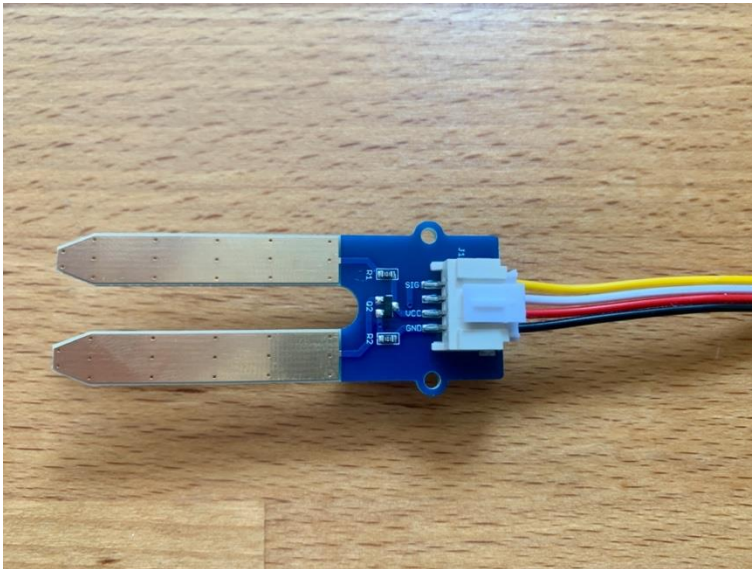

Figure 9: The Grove Moisture Sensor with male jumper connected
5. Connect the male end of the jumper cable to the Grove Moisture Sensor, pushing firmly to clip it into place (Figure 9).